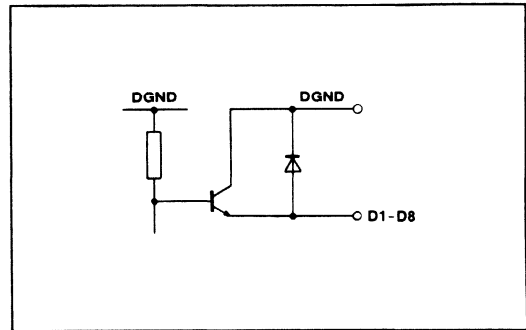

Fig. 7 Digital output
**8-Bit ECL Outputs (Figs. 7 and 9)**